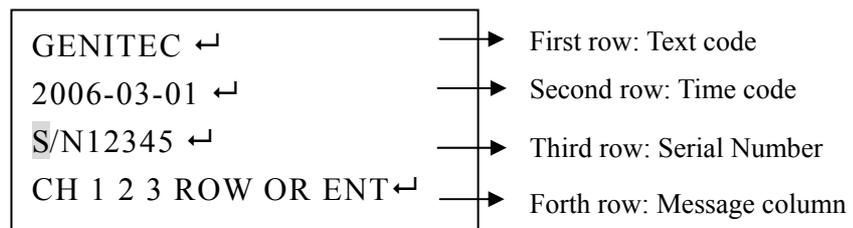

Figure 29
7. When press the button , CAUSER blinks will change to 3 , CAUSER will move to the HOME of the third row; you can do data modification on the position. (Refer to figure 29)